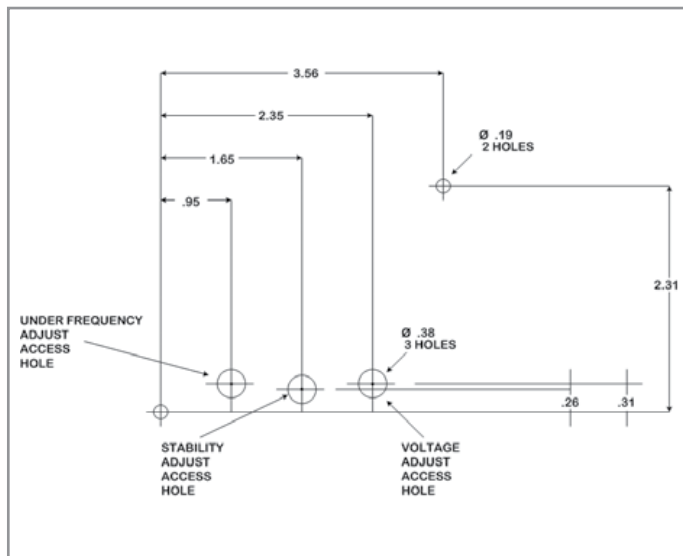

FIGURE 1 – Viewing terminal end of regulator dimensions for mounting terminal side up
The SE350E voltage regulator can be mounted in any plane. See Figure 1 for mounting dimensions.
1. Connect the test setup as shown in figure 1. Do not apply power. Insure that the light bulbs are 120 volt, and less than 100 Watts.